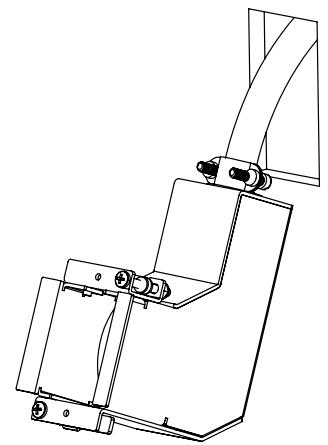
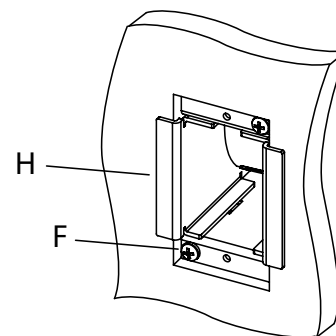

Fig. 3
Fig. 4
11. Feed the Minibox into the wall opening at a slight angle (Fig. 3) until the side tabs (H) are pressed against the mounting surface. (Fig. 4)